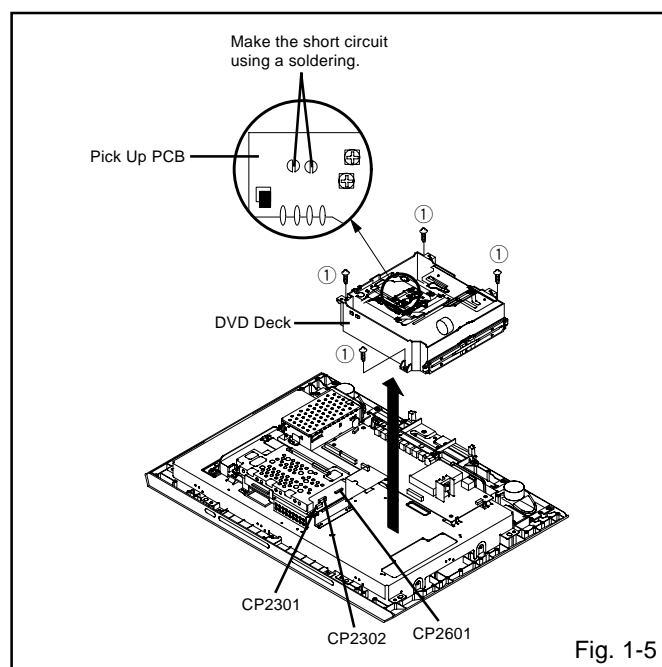

Fig. 1-5
1-5: DVD DECK (Refer to Fig. 1-5)
1. Make the short circuit on the position as shown Fig. 1-5 using a soldering. If you remove the DVD Deck with no soldering, the Laser may be damaged.
3. Remove the 4 screws ①.